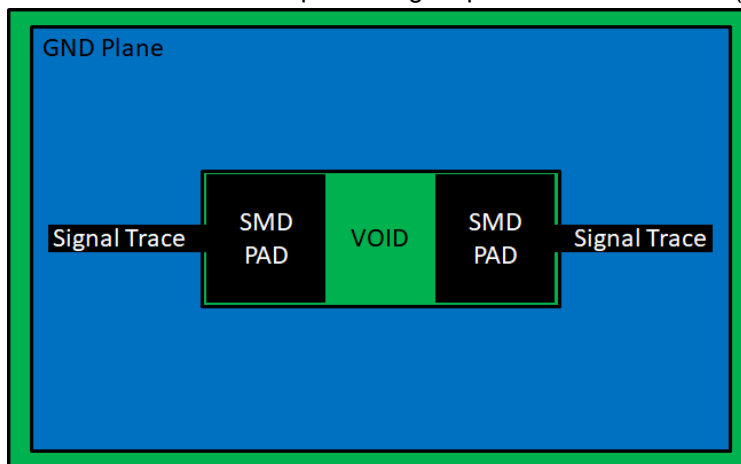

Figure 2-5. Void Below Surface Mount Devices
3. Do not route high-speed traces under or near crystals, oscillators, clock signal generators, switching power regulators, mounting holes, magnetic devices, or integrated circuits (IC) that use or duplicate clock signals.
- Incorporate voids under the *ESD/EMI* component signal pads to reduce losses (see Figure 2-5).